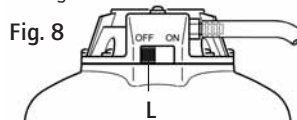

Fig. 8
- By-pass in **OFF** position (Fig. 8-L) : the DOSATRON is not working and is not drawing up any concentrate.